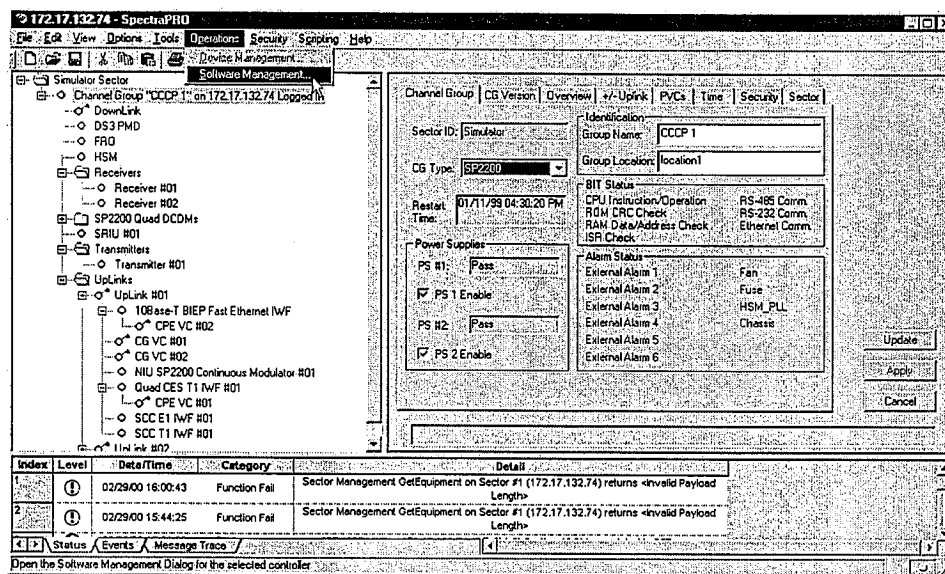

Figure 36. Operations Menu Software Management selection
3. With the desired controller selected, select **Software Management...** from the Operations menu (see Figure 36) to open the Software Management dialog.